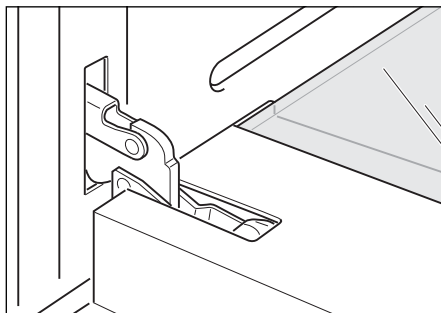

Fig.50a
- Open the door to its full extent (Fig. 50a).